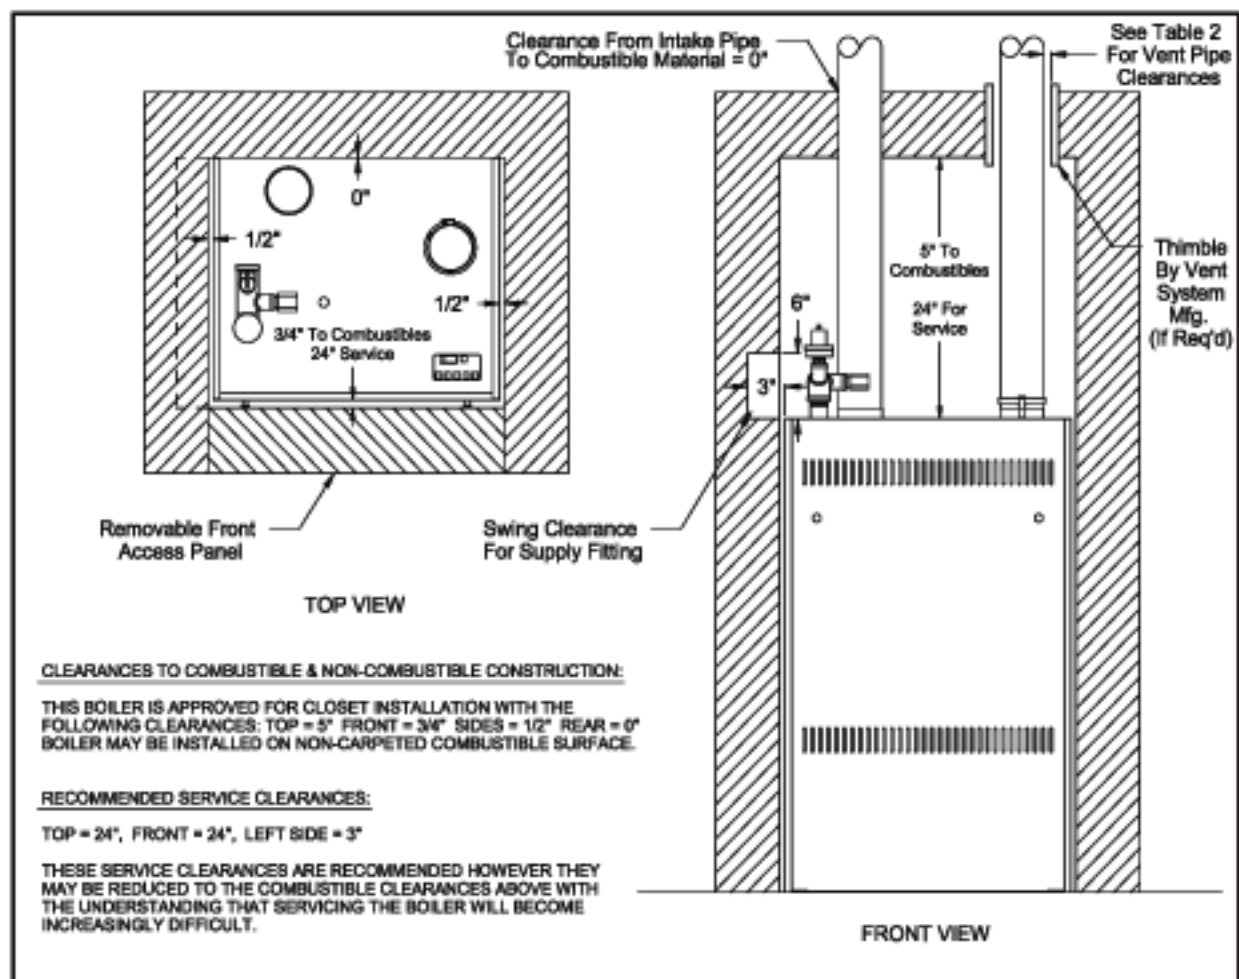

Figure 4.1: Clearances To Combustible Or Non-combustible Material
- 1) Observe the minimum clearances shown in Figure 4.1. These clearances apply to both combustible and non-combustible materials. Observe the minimum clearances to combustibles for vent pipe shown in Table 4.2.
- 2) Note the recommended service clearances in Figure 4.1. The recommended service clearances may be reduced to the minimum combustible clearances with the understanding that servicing the boiler will become increasingly difficult as the clearance is reduced.